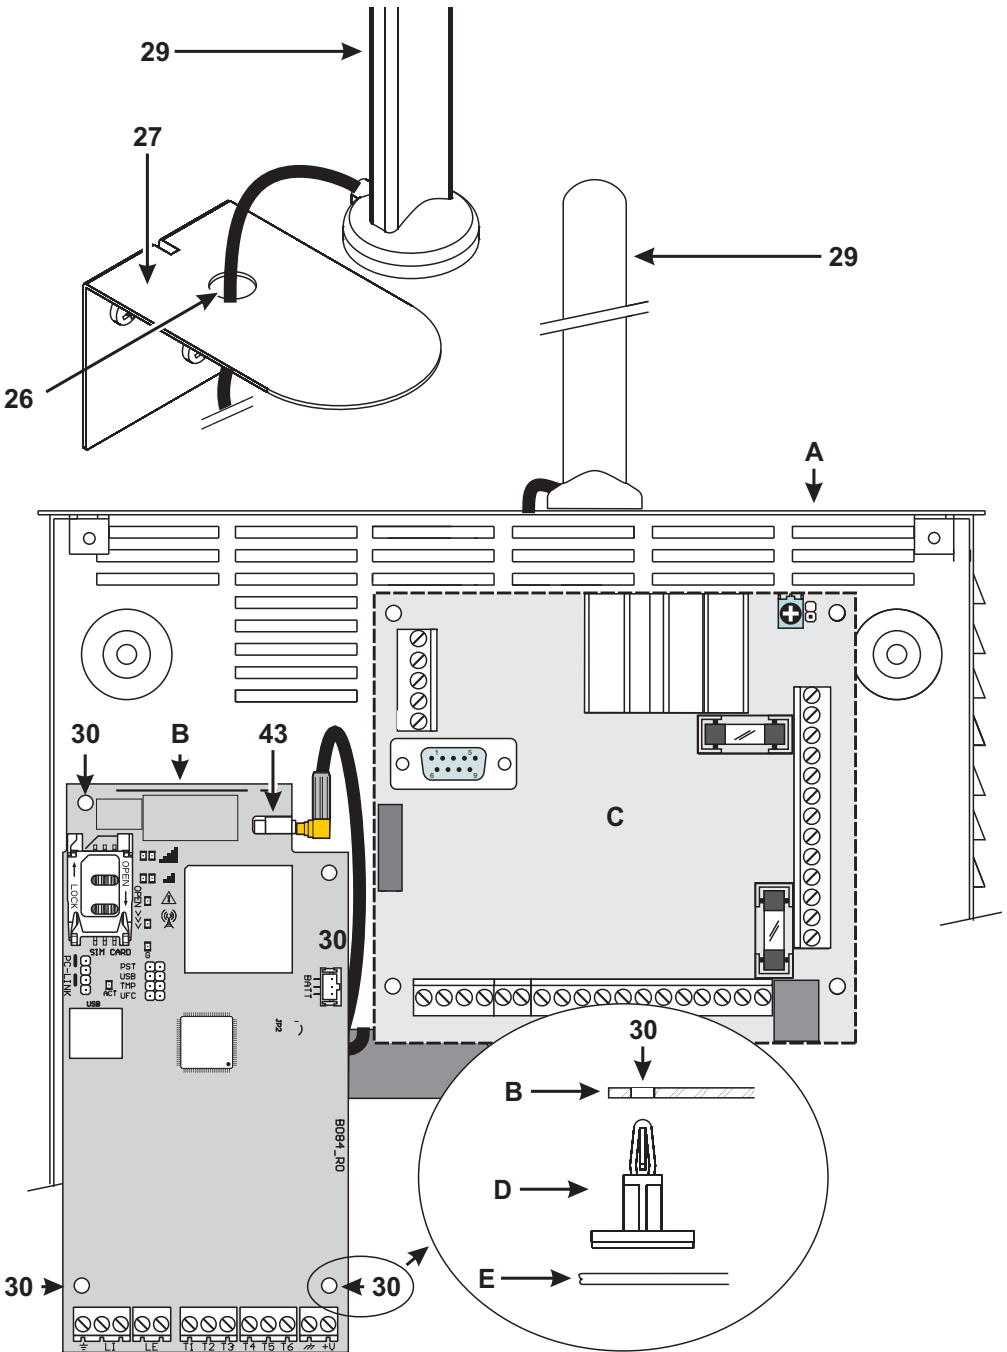

Figure 3 – Installing the kit communicator: A) metal housing; B) communicator board; C) panel motherboard; D) adhesive plastic mount; E) base of metal housing.
To install the kit version, proceed as described below and in figure 3.
3. Mount the 4 provided adhesive plastic mounts into holes 30 of the communicator, as shown in figure 3.